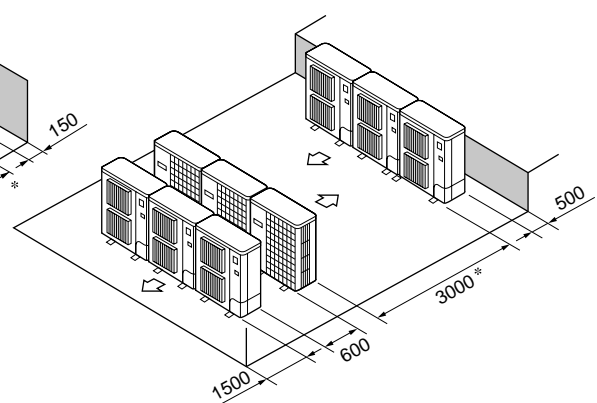

Fig. 2-15
- Multiple parallel unit arrangement (Fig. 2-15)